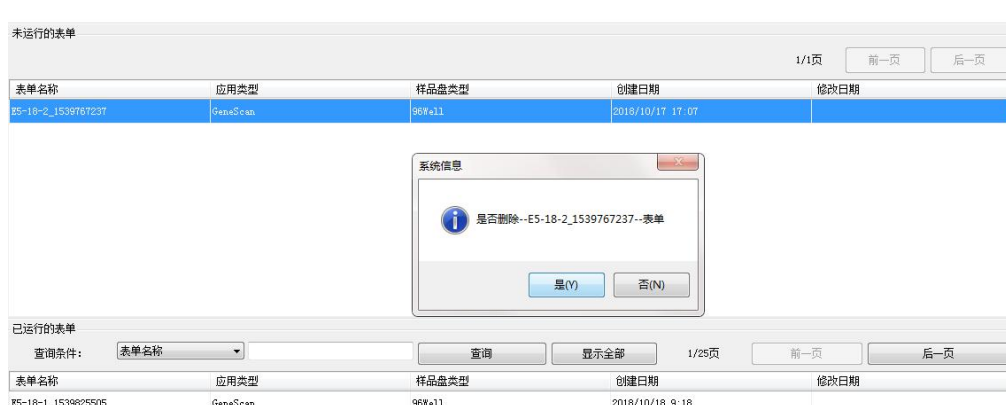

Figure 30. Prompts of Deleting the Form
(1) Select the form to be deleted, click "Method Management", "Sample Formulation", "Delete the Form" in the software menu and the dialog box of confirmation of deleting the form pops up.
(2) Click "Yes" to delete the form. Otherwise, click "No". As shown in Figure 30.